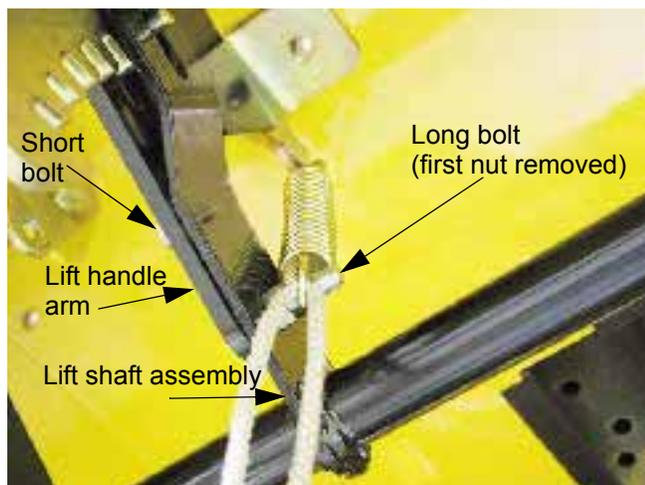

Figure 11.14
11.14. Using an appropriate tool, disconnect the extension springs from each lift handle arm. See Figure 11.14.